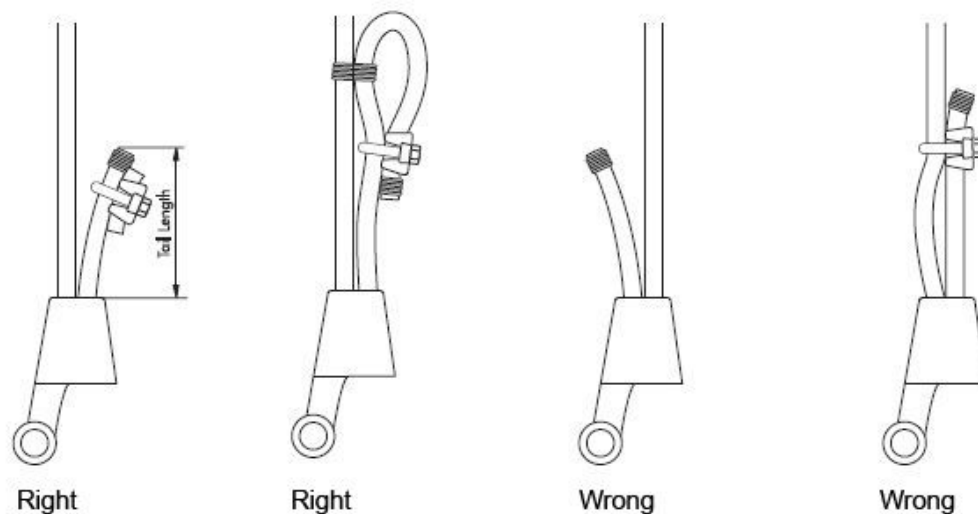

Figure 3
- Never weld the tail on standard wire rope; the tail should have a length of at least 6 times the wire rope diameter with a minimum of 150mm, secure the dead end of the rope with a wire rope clip as shown in figure 3